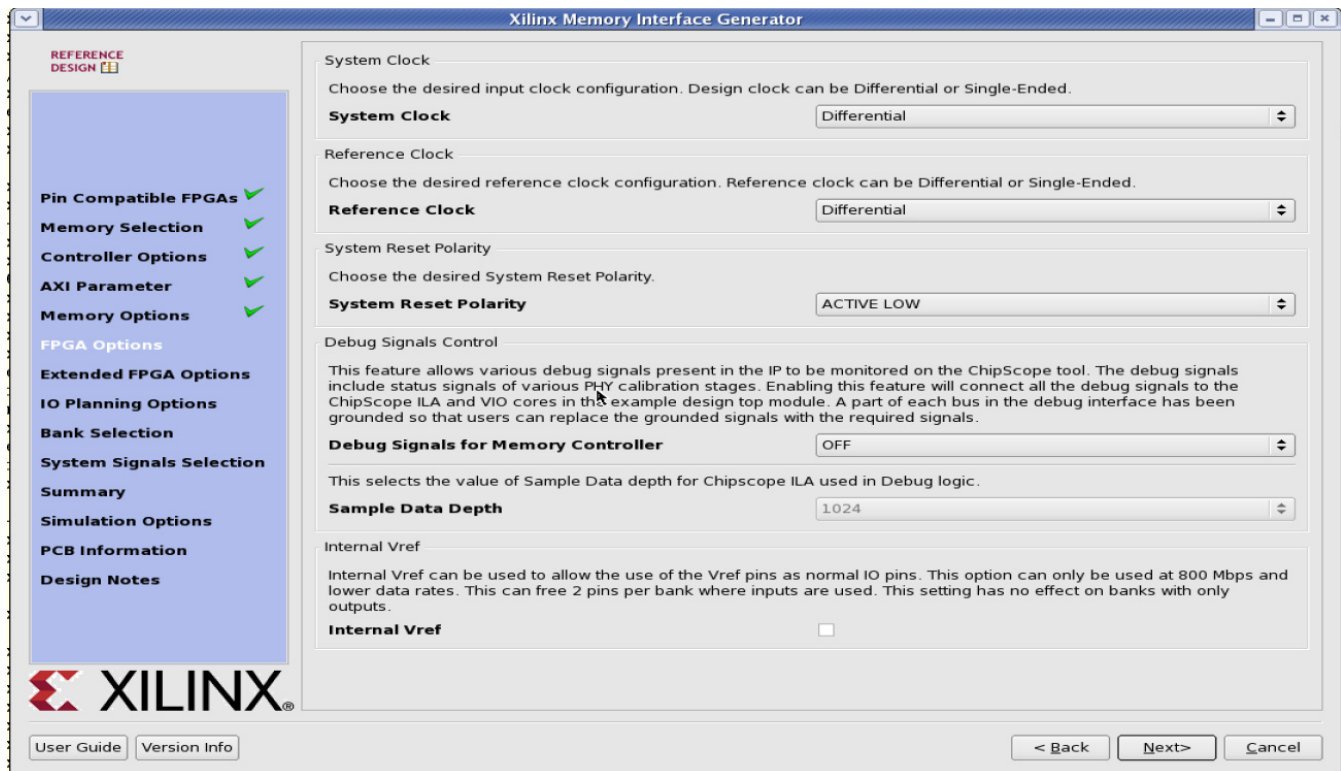

Figure 3-20: FPGA Options Page
Figure 3-20 shows the FPGA Options page.
- sys\_clk** – This is the system clock input for the memory interface and is typically connected to a low-jitter external clock source. Either a single input or a differential pair can be selected based on the **System Clock** selection in the **FPGA Options** page (Figure 3-20). The `sys_clk` input must be in the same column as the memory interface. If this pin is connected in the same banks as the memory interface, the MIG tool selects an I/O standard compatible with the interface, such as DIFF\_HSTL\_I or HSTL\_I. If `sys_clk` is not connected in a memory interface bank, the MIG tool selects an appropriate standard such as LVCMOS18 or LVDS. The XDC can be modified as desired after generation.
- clk\_ref** – This is the reference frequency input for the IDELAY control. This is a 200 MHz input. The `clk_ref` input can be generated internally or connected to an external source. A single input or a differential pair can be selected based on the **System Clock** selection in the **FPGA Options** page (Figure 3-20). The I/O standard is selected in a similar way as `sys_clk` above.
- **sys\_rst** – This is the system reset input that can be generated internally or driven from a pin. The MIG tool selects an appropriate I/O standard for the input such as LVCMOS18 and LVCMOS25 for HP and HR banks, respectively. Default polarity of `sys_rst` pin is active-Low. Polarity of `sys_rst` pin varies based on "System Reset Polarity" option chosen in **FPGA Options** page (Figure 3-20).